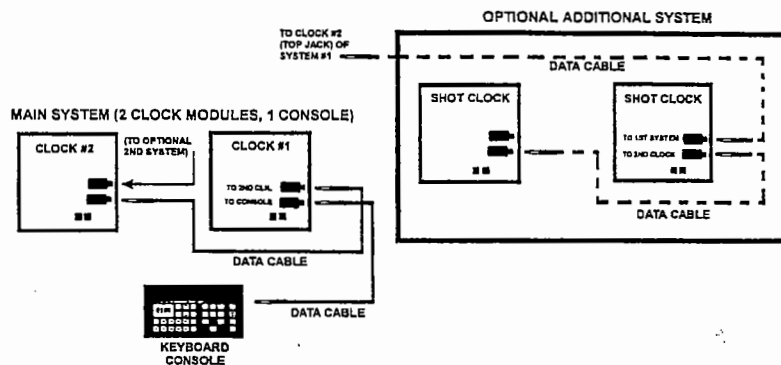

Figure 9
The control board is located inside the scoreboard at the right side of each clock, see Fig. 9, page 9.
Step 4 Route the data cable (DC-3) used to connect the Operator's Console to Clock #1 through the rear panel cover and plug into the BOTTOM 1/4-inch phono jack, see Fig. 9 below.
IF you purchased an optional additional system (i.e., four clocks, one console), follow the diagram in Fig. 9, to connect the cables for the second system.
Clock #2 will be the unit that the operator's console is NOT connected to, see Fig. 9.
Plug the data cable from Clock #1 into the BOTTOM 1/4-inch phono jack located on Clock #2's control board, see Fig. 9.
To operate the unit, the BATTERY ON/OFF switch located inside on the control board of each clock (see Fig. 9) must be placed in the "BATTERY OFF" position.